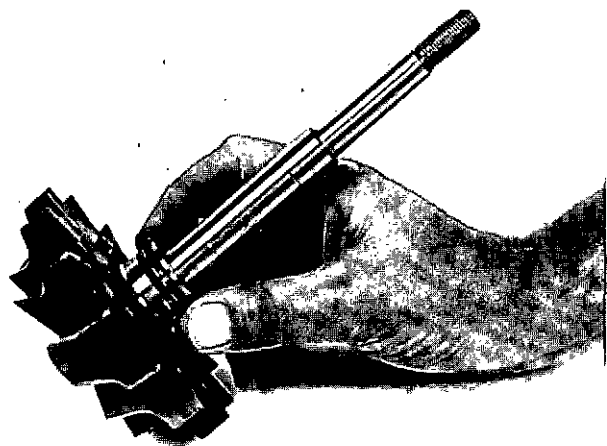

Fig. 4-33, (T465085). Install the sealing rings onto the turbine wheel and shaft
10. Put the sealing ring (8) over the turbine wheel and shaft (9) and into the ring groove. Oil the rings with a 30W lubricant, Fig. 4-33.